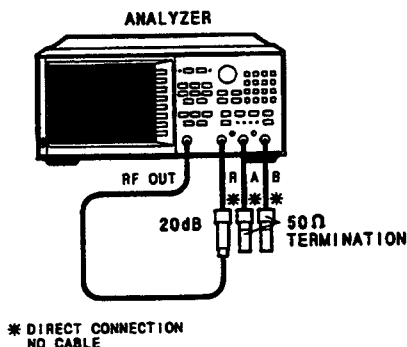

Figure 3. Receiver Noise Level Test Setup
1. Connect the equipment as shown in Figure 3 and press **[PRESET] [MENU] [POWER] [-] [1] [0] [x1] [MKR FCTN] [STATS ON]** to set up the instrument. When **[STATS ON]** is pressed, *mean*, *s.dev*, and *p-p* values will appear.